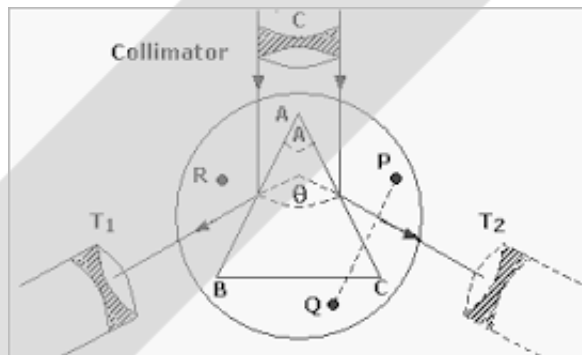

Fig.6.1: Alignment of spectrometer by prism
- (b) The second method which is generally used in optical leveling of the prism table In this method the prism is placed on the prism table with its refracting edge at the center of the prism table and one of its polished surface perpendicular to the line joining the two leveling screws P and Q as shown in Fig 6.1.
Now rotate the prism table in such a way that refracting edges AB and AC face towards the collimator and light falling on the prism is usually reflected on both sides as shown in Fig 6.1. The telescope is moved to one side to receive the light reflected from the face AC and the remaining third screw R is adjusted till the image in the center of the field of view.